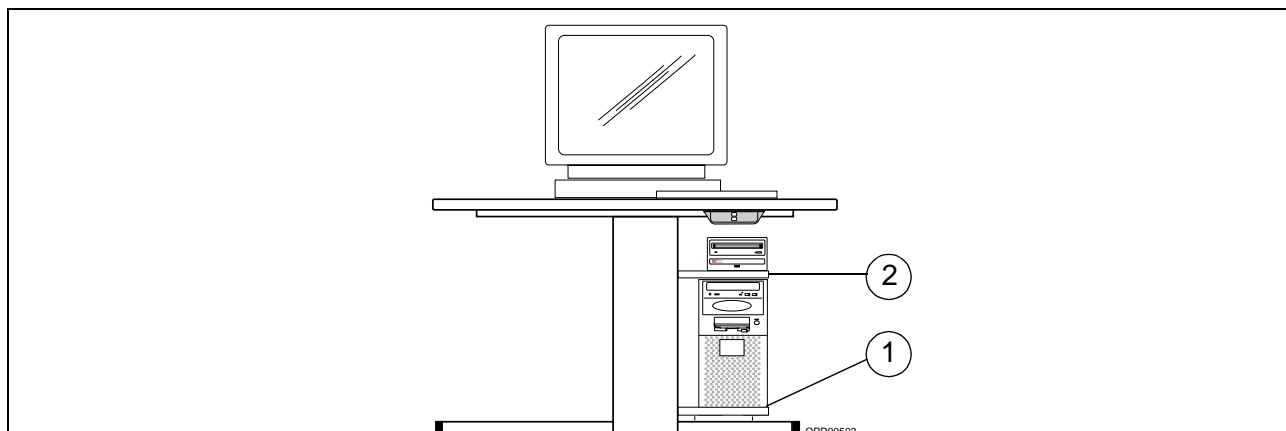

Fig. 3
3. Place the computer unit to the right on its shelf (1/Fig. 3).
4. Mount the MO unit shelf close to the computer unit (2/Fig. 3).
5. Place the MO unit to the right on the shelf (2/Fig. 3).